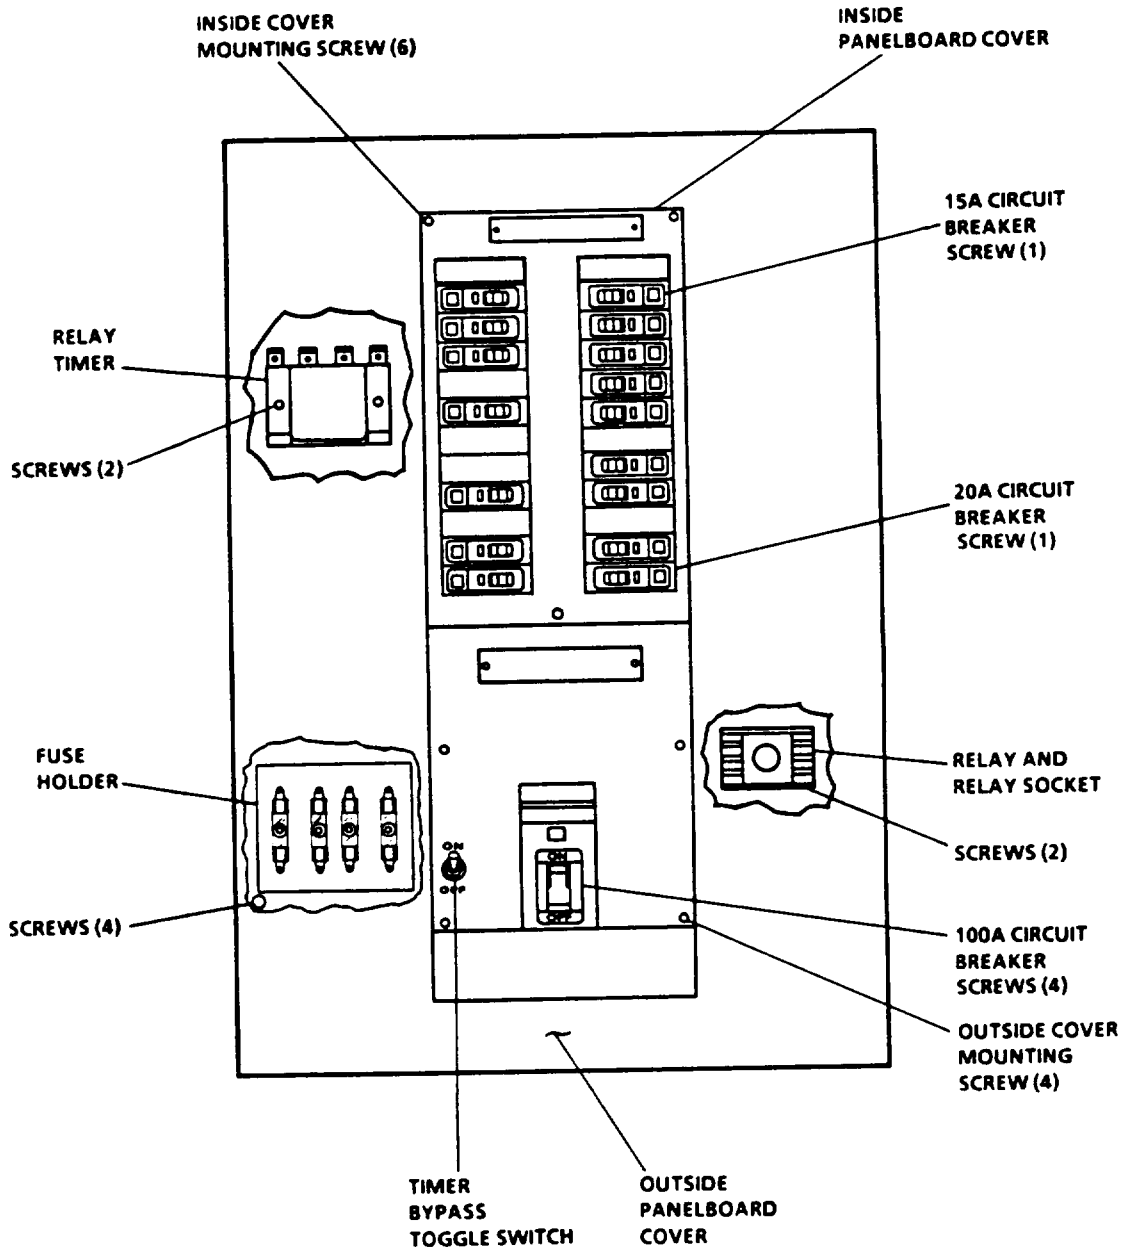

Figure 4-11. Panelboard Assembly
3. Remove 20A circuit breaker. See figure 4-11.
4. Remove 15A circuit breaker. See figure 4-11.
5. Remove relay timer. See figure 4-11.
6. Remove relay and socket. See figure 4-11.
7. Remove fuse and fuseholder. See figure 4-11.
1. Install fuseholder and fuse. See figure 4-11.
2. Install socket and relay. See figure 4-11.
3. Install relay timer. See figure 4-11.
4. Install 15A circuit breaker. See figure 4-11.
5. Install 20A circuit breaker. See figure 4-11.
6. Install 100A circuit breaker. See figure 4-11.
7. Install timer bypass toggle switch. See figure 4-11.
Install panelboard assembly. See figure 4-11.